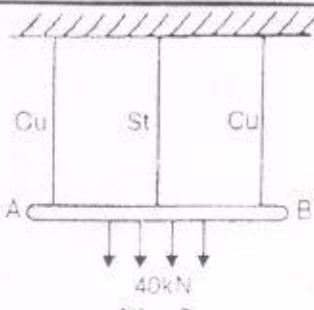

Fig. 2
Q.2. A A rigid body AB weighing of 40 kN hangs from three wires of equal lengths as shown in Fig. 2. The middle wire is of steel and two outer wires are of copper. If cross-sectional area of each wire is 250 mm^2 . **Determine** load shared by each wire. Take $E_s=210$ GPa, $E_{cu}=105$ GPa. 7
- Q.2. A Rigid body AB weighing of 40 kN hangs from three wires of equal lengths as shown in Fig. 2. The middle wire is of steel and two outer wires are of copper. If cross-sectional area of each wire is 250 mm^2 . Determine load shared by each wire. Take $E_{st}=210 \text{ GPa}$, $E_{cu}=105 \text{ GPa}$.